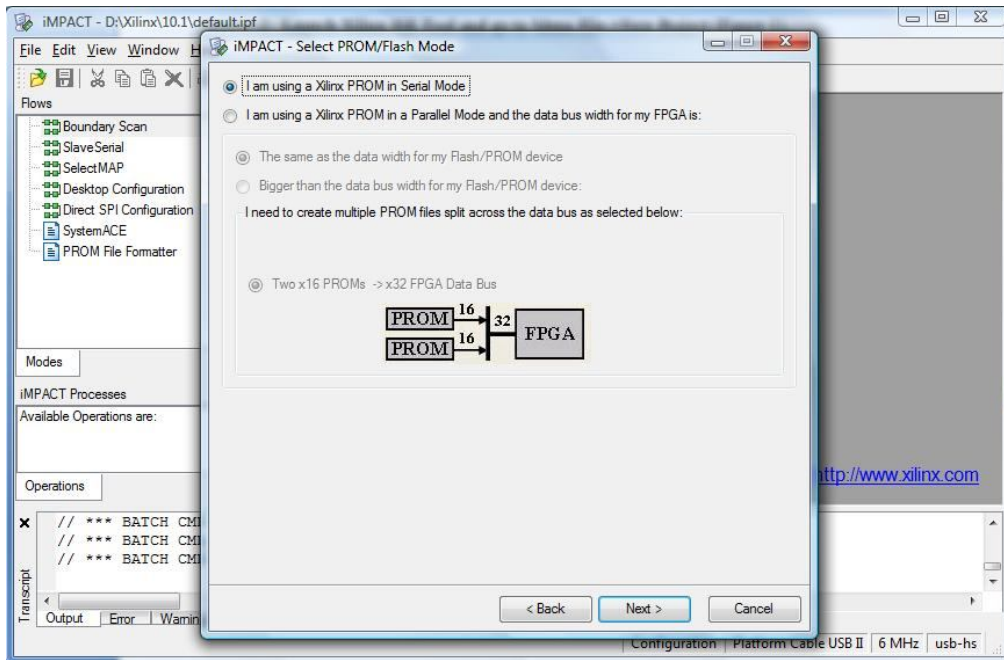

Figure 6 : Selecting the PROM/Flash Mode
- e. Let the first option checked (by default) and click Next (Figure 6).